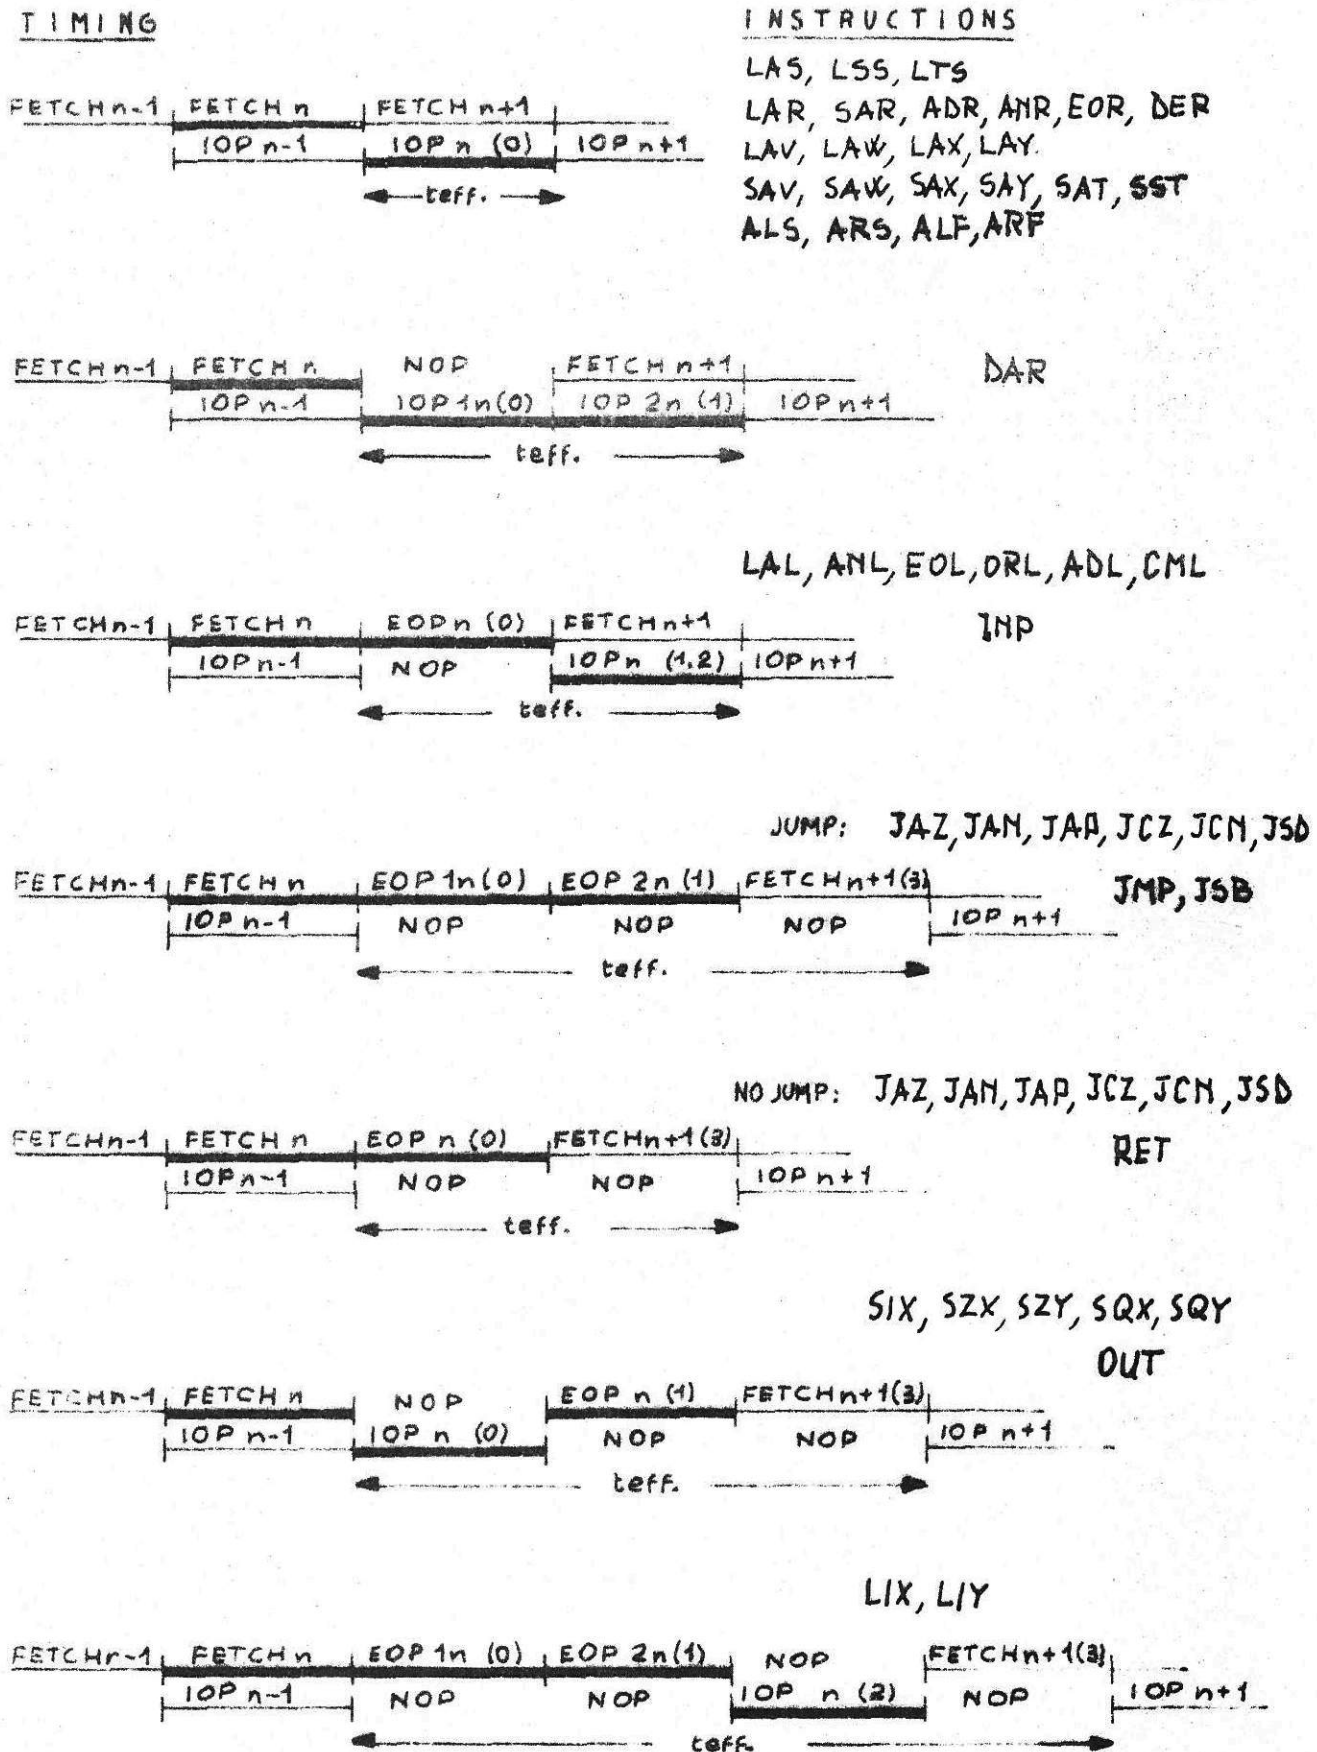

Fig. 15 - INSTRUCTION OVERLAPPING
Figure 15 shows the full picture of the instruction set. The instructions having the same timing are grouped together. Let's now summarize here the main characteristics of the system timing:
- 3 - The diagrams on figure 15 show the instruction set grouped by instruction types, and the possible overlappings of the current instruction with the previous and the following instruction.